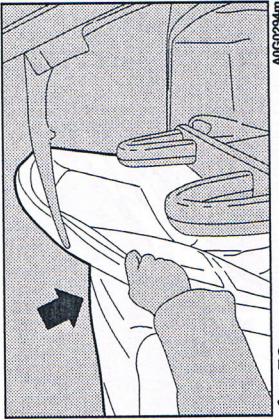

fig. 72
- lift the bow of the top slightly **fig. 72** and then lower the cover of the top **A-fig. 68**;